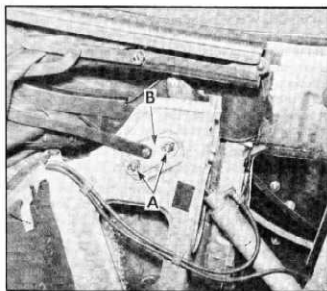

Fig. 50—Control Link Adjusting Plate
2. Loosen two attaching nuts "A" and without changing the fore and aft location of the plate "B," shift the plate up to lower the side roof rail or down to raise the side roof rail (fig. 50).